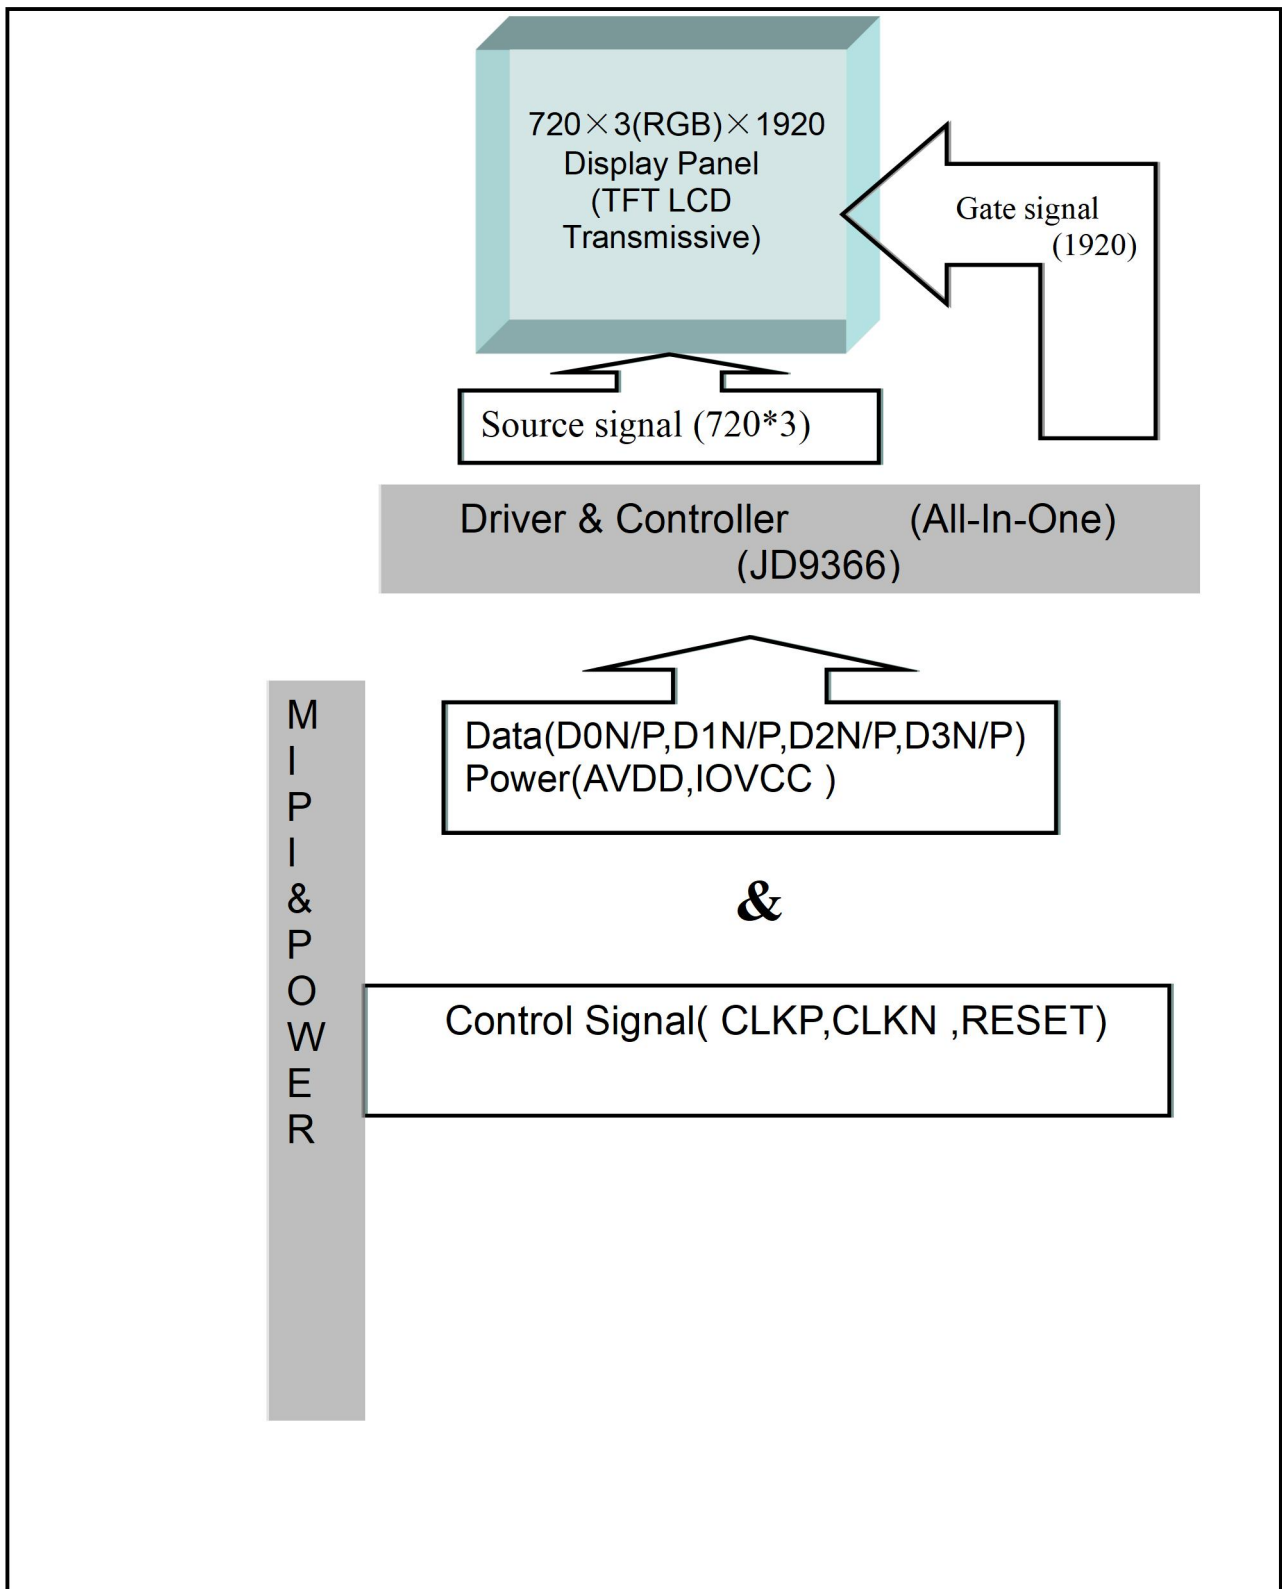

**FIG. 3 The definition of Viewing Angle**
4. Viewing angle is the angle at which the contrast ratio is greater than 10. The angles are determined for the horizontal or x axis and the vertical or y axis with respect to the z axis which is normal to the LCD surface. For more information see FIG 3..